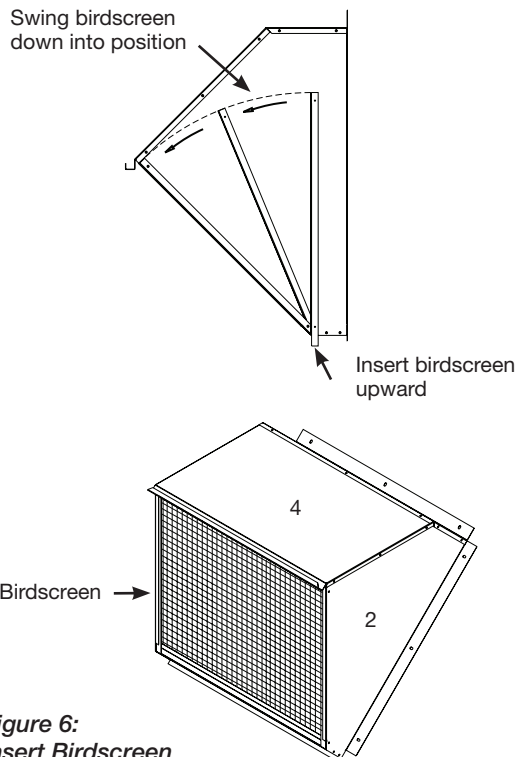

Figure 6:
5. Install the bottom panel (6) to the sides using the 5/8 inch length sheet metal screws. Place the bottom panel (6) inside each flanged side.
6. Refer to Figure 6 and slide the birdscreen into the bottom of the assembled weatherhood through the openings on the underside. Place birdscreen in the frame and rest on the flanges on each side. Fasten screen to each side using the 5/8 inch length sheet metal screws.